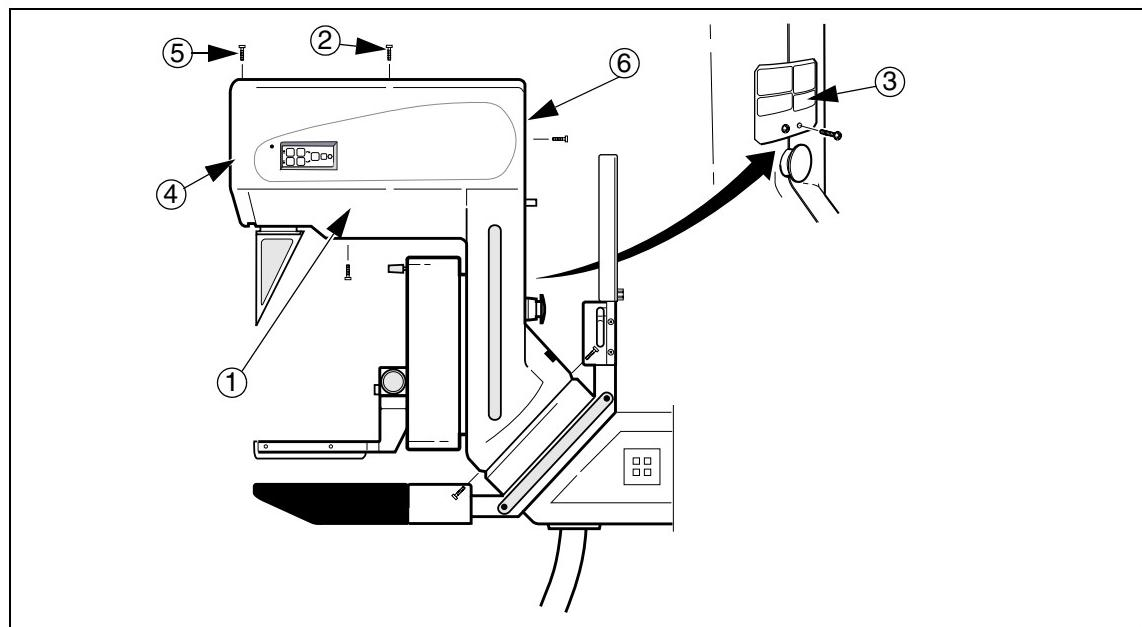

Fig. 2 Covers and sign
1. Mount the side covers (1/Fig. 2) with six screws (2/Fig. 2) on each side. Start with the right side.
Do not forget to fit the sign (3/Fig. 2) when mounting the side covers. Use the two longer screws.
Make sure that the longer screws are not used at the back of the covers at the upper location (6/Fig. 2) since this may damage the board underneath the cover.
2. Carefully fit the front cover (4/Fig. 2) so that both openings engage with the lugs of the side covers.
4. Fasten the front cover to the side covers with two short screws (5/Fig. 2).